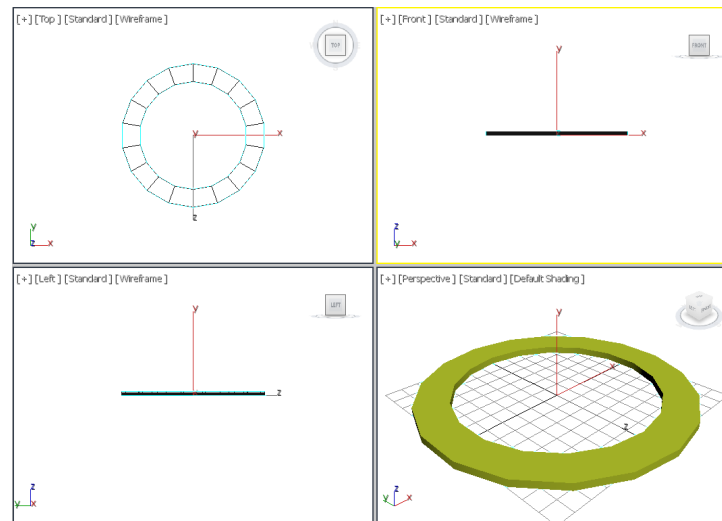

Figure 2-49 The *Tube001* displayed in viewports
3. In the **Parameters** rollout, enter **48** in the **Sides** spinner; *Tube001* is displayed in the viewports, as shown in Figure 2-49.